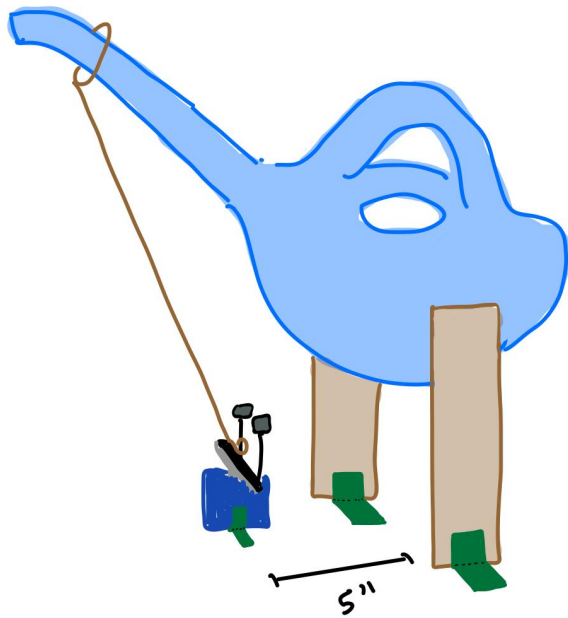

Figure 6. Motor with cardboard taped onto two-armed horn and machine screws glued onto cardboard
16. Cut a piece of string to approximately 4". Wrap this string around the 18" string you made in Step 14. Tape the two ends of the 4" string to the surface you taped the cardboard columns to. The 18" string should now have an "L-shape." See Figure 6 in Appendix C for drawing.